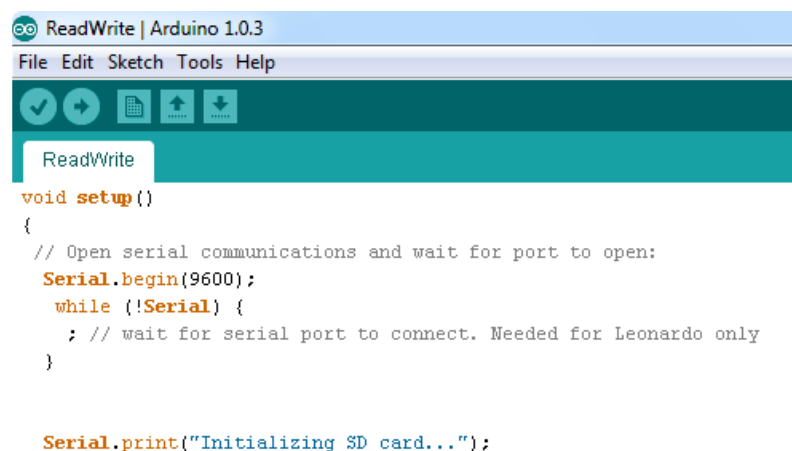

Figure 13.
7. After opened an example program is “ReadWrite program” will be shown detail of the C language code as figure 13.